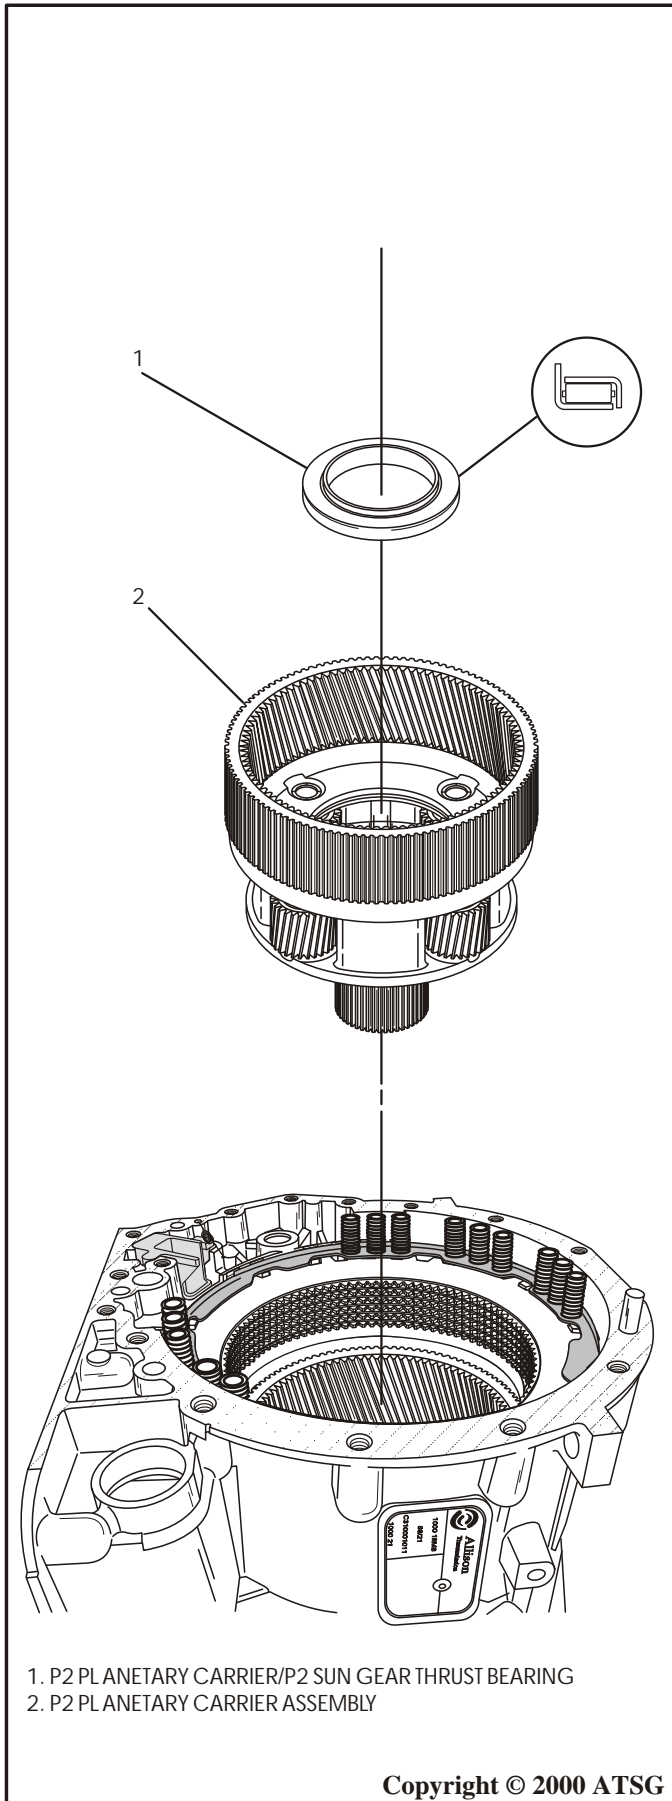

Figure 63
41. Remove the P2 planetary carrier assembly by lifting up with a slight twisting motion. Refer to Figure 63.
Note: The planetary carrier to P2 sun gear thrust bearing will be removed with the planetary carrier (See Figure 63).